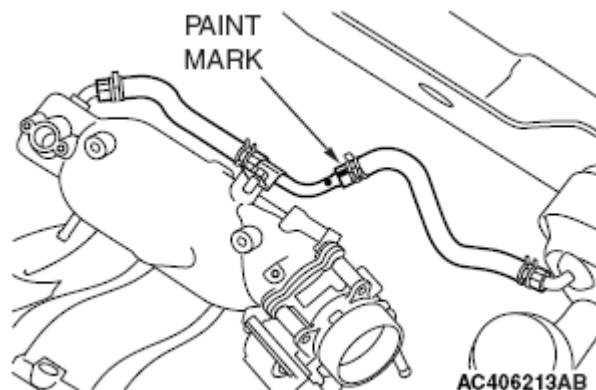

Fig. 38: Unlocking Timing Chain Tensioner
2. With the timing chain tensioner unlocked, insert special tool MB992103 inside the timing chain case assembly along the tension side of the timing chain until the insertion guide line aligns with the upper surface of the timing chain case assembly (**Fig. 38**).
NOTE: With the timing chain tensioner unlocked, insert the special tool MB992103 along the tension side of the timing chain, according to the special tool MB992103 top shape. The special tool MB992103 can be inserted smoothly to the position where the special tool MB992103 insertion guide line aligns with the timing chain case assembly top surface (**Fig. 38**), and the spread timing chain tension side guide can be held (**Fig. 38**).